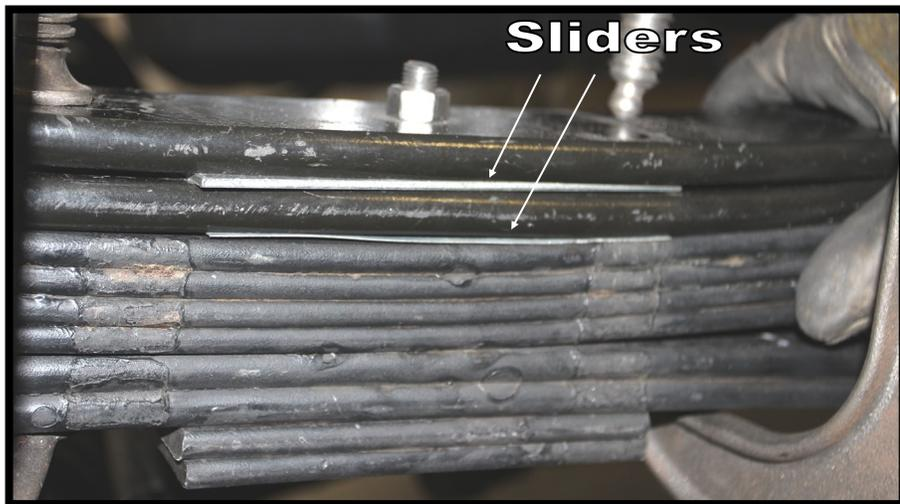

Figure 8
11. Remove the temporary center pin from the add-a-pack and remove the bolts/crush sleeves from the add-a-pack's spring retainers - **Figure 8 (Next Page)**
16. Reinstall the bolts & Crush sleeves in the spring retainers. - **Figure 8 (next page)**